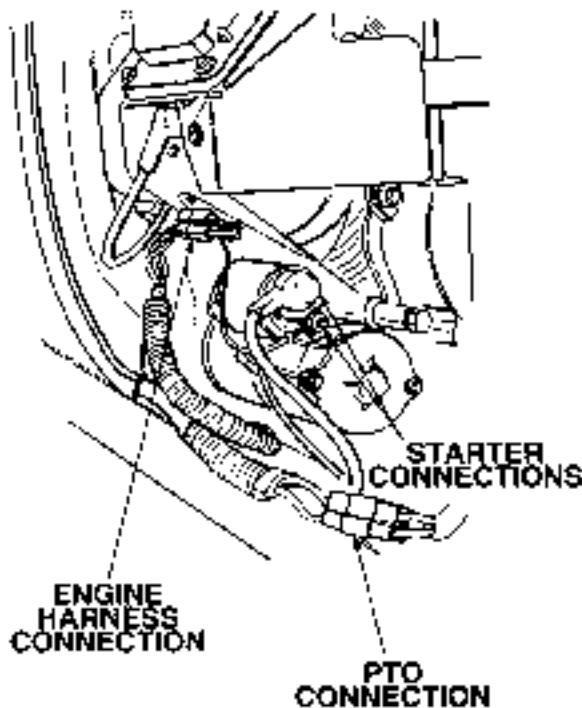

Figure 5-43. Wire Harness Connections
5. Disconnect all wire harness and battery connections (Fig. 5-43) from the engine per paragraph 5-4.2 or 5-5.2